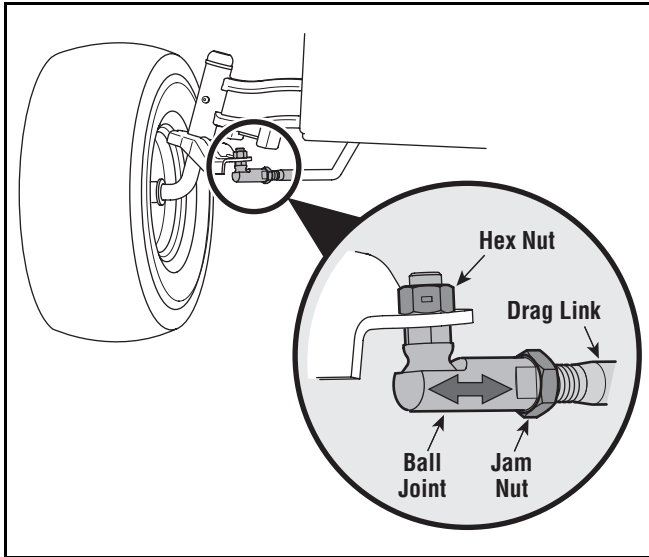

Figure 14
- Loosen the jam nut found on the drag link at the rear of the ball joint. See Figure 14.
- Remove the hex nut on the top of ball joint. See Figure 14.